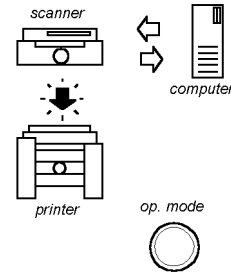

Figure 1. Copy Mode Selected
1. Select the Copy Mode (Figure 1).